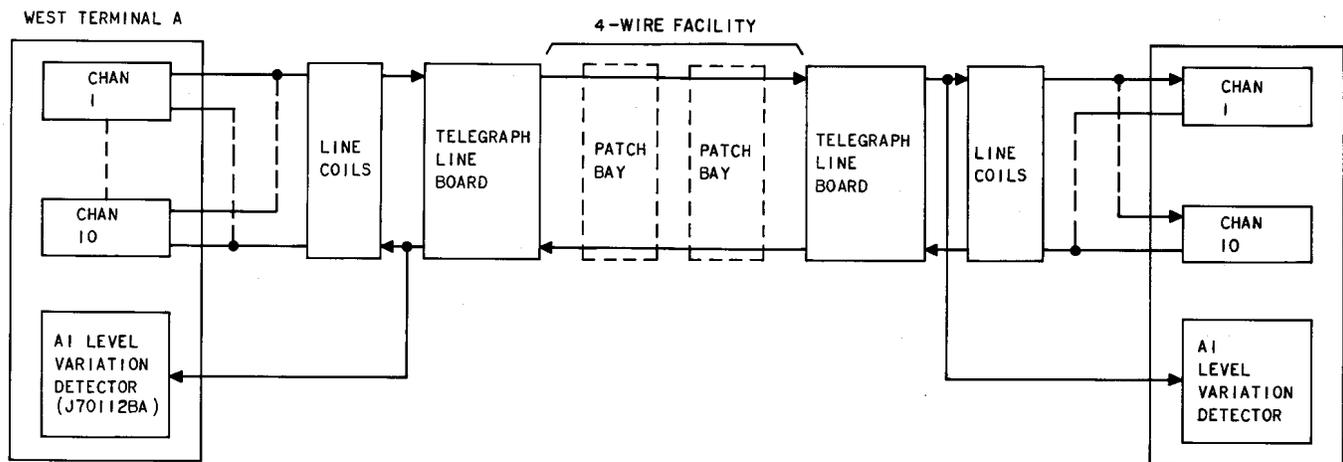

Fig. 1—Typical 43A1 VFCT System
1.03 A typical 43A1 VFCT system is shown in Fig. 1. The various units required for the installation of a 43A1 VFCT channel terminal are given in the following tables.